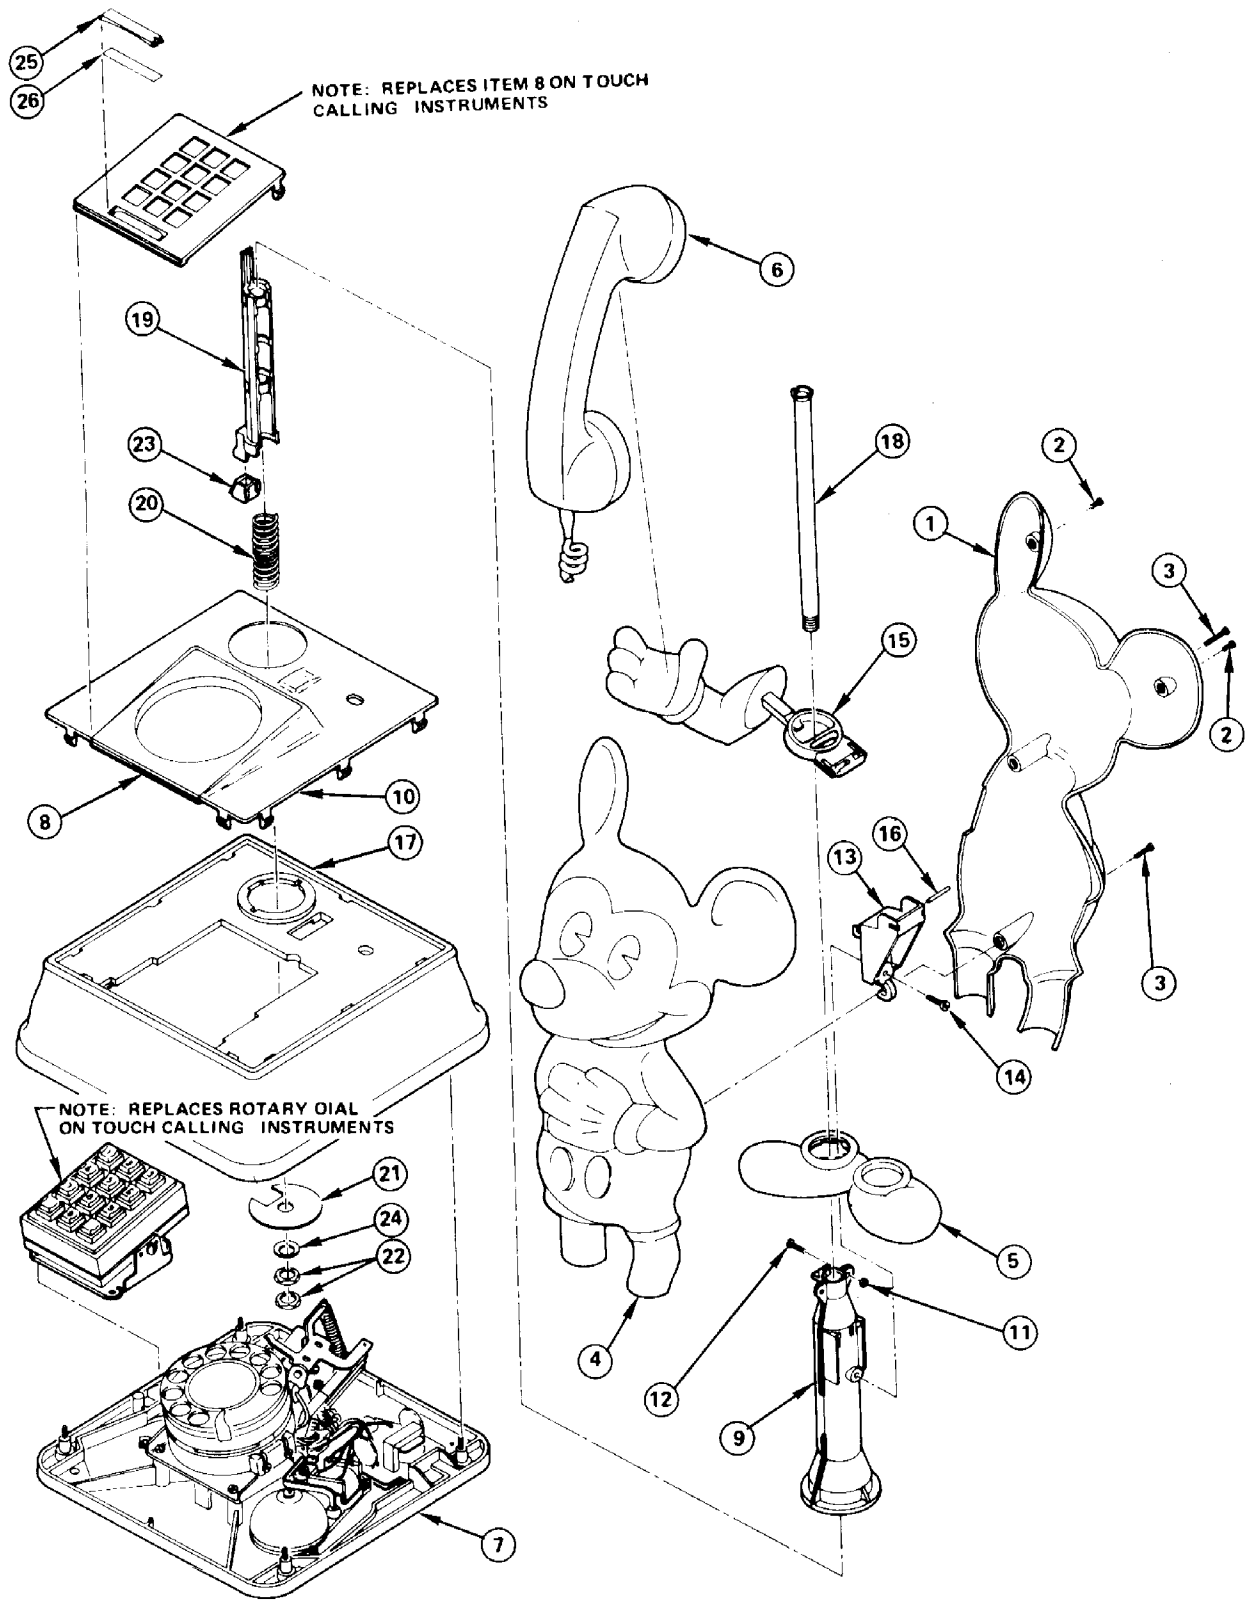

Figure 13. Mickey Mouse Telephone Assembly.
8.10 Replace the Mickey Mouse figure as follows (refer to Table 13 and Figure 13):
- (a) Remove the handset (6) from the actuator lever (15) (hand of the Mickey Mouse figure).
- (b) Remove the two ear screws (2) and two body screws (3) securing the Mickey Mouse figure back (1) to the Mickey Mouse figure front (4).
- (c) Pry the Mickey Mouse figure back (1) from the Mickey Mouse figure front (4) and lift the Mickey Mouse figure back from the Mickey Mouse figure shoes (5).
- (d) Lift the Mickey Mouse figure front (4) from the Mickey Mouse figure shoes (5).
- (e) Press the locking fingers of the actuator lever pivot (13) downward to expose the pivot pin (16). With a small-diameter rod, press the pivot pin free and remove the actuator lever (15).
- (f) Remove the screw (14) securing the actuator lever pivot (13) to the column (9). Remove the actuator lever pivot.
- (g) Work the Mickey Mouse figure shoes (5) upward and free of the column (9).
- (h) Reinstall the Mickey Mouse figure by reversing steps (a) through (h). Be certain that the Mickey Mouse figure shoes (5) pilot pin engages the pilot hole in the decor panel (10). Engage the catch on the actuator lever pivot (13) before installing the screw (14) and locate the actuator lever (15) tab in the column (9) cutout before installing the pivot pin (16).
8.11 Replace the actuator sleeve as follows (refer to Table 13 and Figure 13):
- (b) Remove the two jam nuts (22), bowed washer (24), and housing washer (21).
- (c) Remove the actuator sleeve (19) through the lower end of the column (9).
- (d) Remove the actuator sleeve spring (20) through the lower end of the actuator sleeve (19).
- (e) Reinstall the actuator sleeve (19) by reversing steps a through d.
8.12 Replace the dial panel as follows (refer to Table 13 and Figure 13):
- (b) From the underside of the housing assembly (17), disengage the two catches on the dial panel (8). Through the cutout in the housing assembly, press upward on the rear of the dial panel. (The flange on the front of the dial panel will remain engaged with the front lip of the housing assembly cutout.)
- (c) From the top of the housing assembly (17), raise the rear of the dial panel (8) further and disengage the dial panel front flange from the housing assembly.
8.13 Replace the number card window on Touch Calling telephones as follows (refer to Table 13 and Figure 13):
- (a) With a small-diameter rod inserted in the hole at the end of the number window (25), pry the number window free of the dial panel (8) cavity.
- (b) Remove the number card (26) from the dial panel (8) cavity.
- (d) Install the number window (25) by inserting one end in the dial panel (8) cavity, bowing the window, and inserting its opposite end in the dial panel cavity.
FOLLOWING ITEMS NOT SHOWN IN FIGURE 13